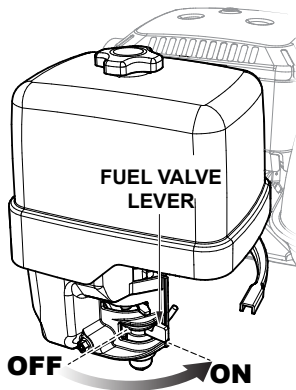

Figure 5. Engine Fuel Valve Lever (ON)
1. Place the engine fuel valve lever in the **ON** position (Figure 5).